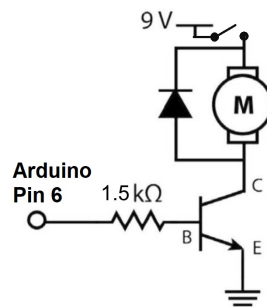
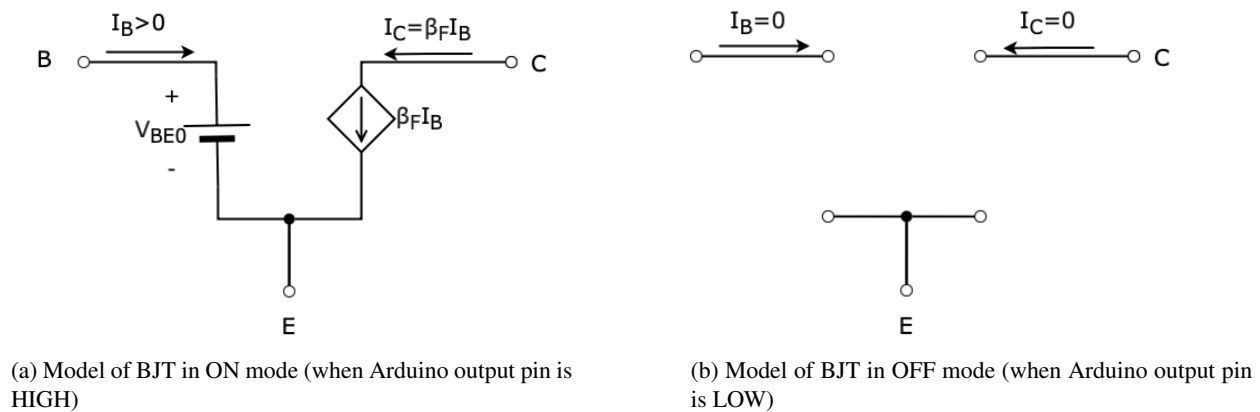

Figure 2: Motor Controller Circuits
Figure 3: Model of NPN BJT in Different Modes
When current is driven into the base (B) terminal, the BJT switches to the ON state and when the flow stops, the BJT can be modelled in the OFF state. But, for the sake of simplicity, we can simplify the model such that the BJT in Figure 2 is switching between the ON and OFF modes when the Arduino output pin  $V_A$  is HIGH (5V) and LOW (0V) respectively. The model for both ON and OFF states are shown in Figure 3. When the BJT turns on,  $V_{BE}$  can be modeled as a fixed voltage source between the Base and Emitter terminals with a voltage value of  $V_{BE0}$ , which is usually between 0.6V to 0.8V. In ON mode, there is a **Current Controlled Current Source** modeled between the “Collector (C)” and “Emitter (E)”, i.e., current at the “Collector (C)” is an amplified version of current at the “Base (B)” (notice that  $I_B$  has to flow into the “Base (B)” for the relation  $I_C = \beta_F I_B$  to hold.)  $\beta_F$  is called the **Common-Emitter Current Gain**. When the Arduino output pin  $V_A$  is HIGH (5V), the voltage across the resistor  $R_B$  in Figure 2 is  $V_{HIGH} - V_{BE0}$ . So we can calculate the current flowing into the “Base (B)”,  $I_B$ , and the current flowing into the “Collector (C)”,  $I_C$ , as
From equations above, we know that the resistor in the motor controller circuit (Figure 2) is used for defining the current flow through the Arduino output pin, BJT, and motor. Therefore, we should carefully choose the value of the resistor considering the maximum current that BJT and Arduino pin can handle and the current required to drive the